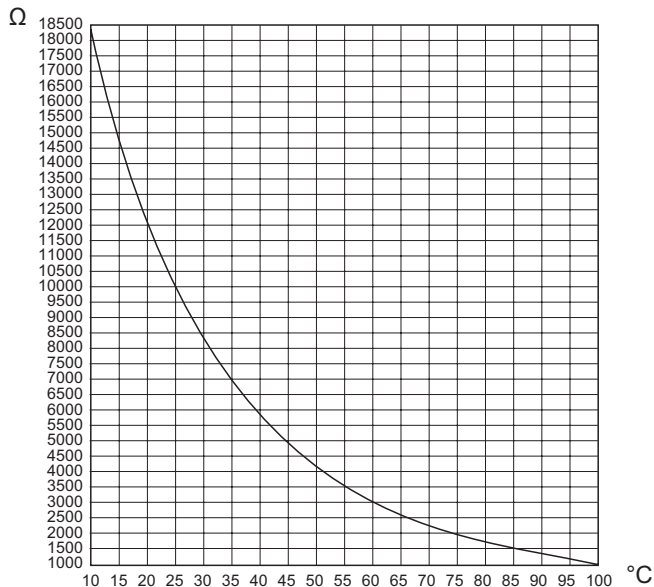

Figure 20.1
The relation between temperature and electrical resistance is stated in Figure 20.1.
- 3 For other temperatures of the probe check the electrical resistance according to the graph (Figure 20.1).